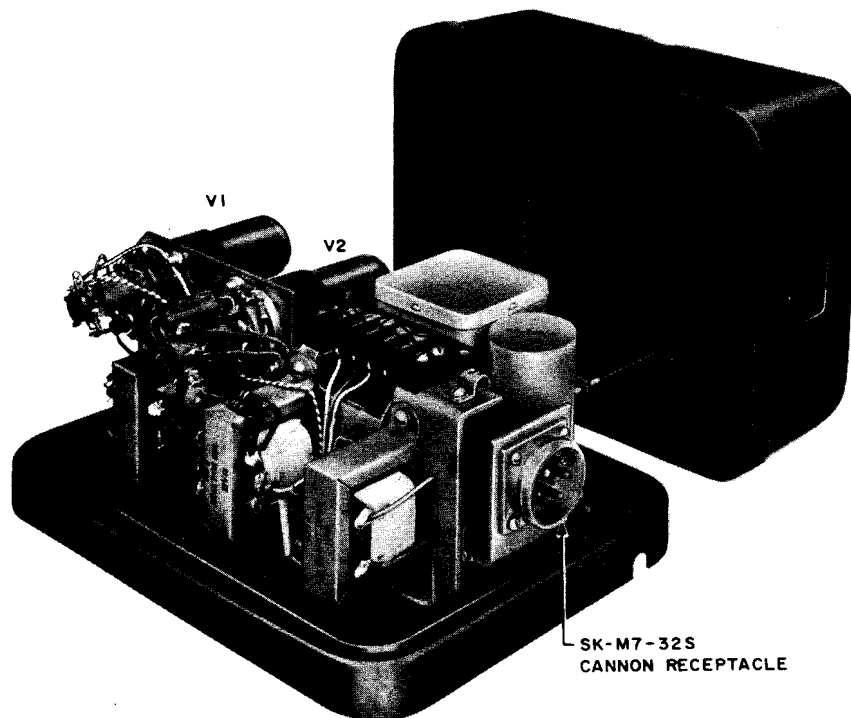

Fig. 2 - 50-Type Recorder Connector
3.01 The 50-type recorder connector (Fig. 2) consists of an assembly of electronic apparatus mounted on a base approximately $9\frac{5}{8}$ inches high by $7\frac{1}{8}$ inches wide with a metal cover approximately 4 inches deep. A 7-pronged receptacle is permanently attached to the recorder connector into which a customer-owned voice recorder or KS-16730, List 1 recorder connector may be connected.